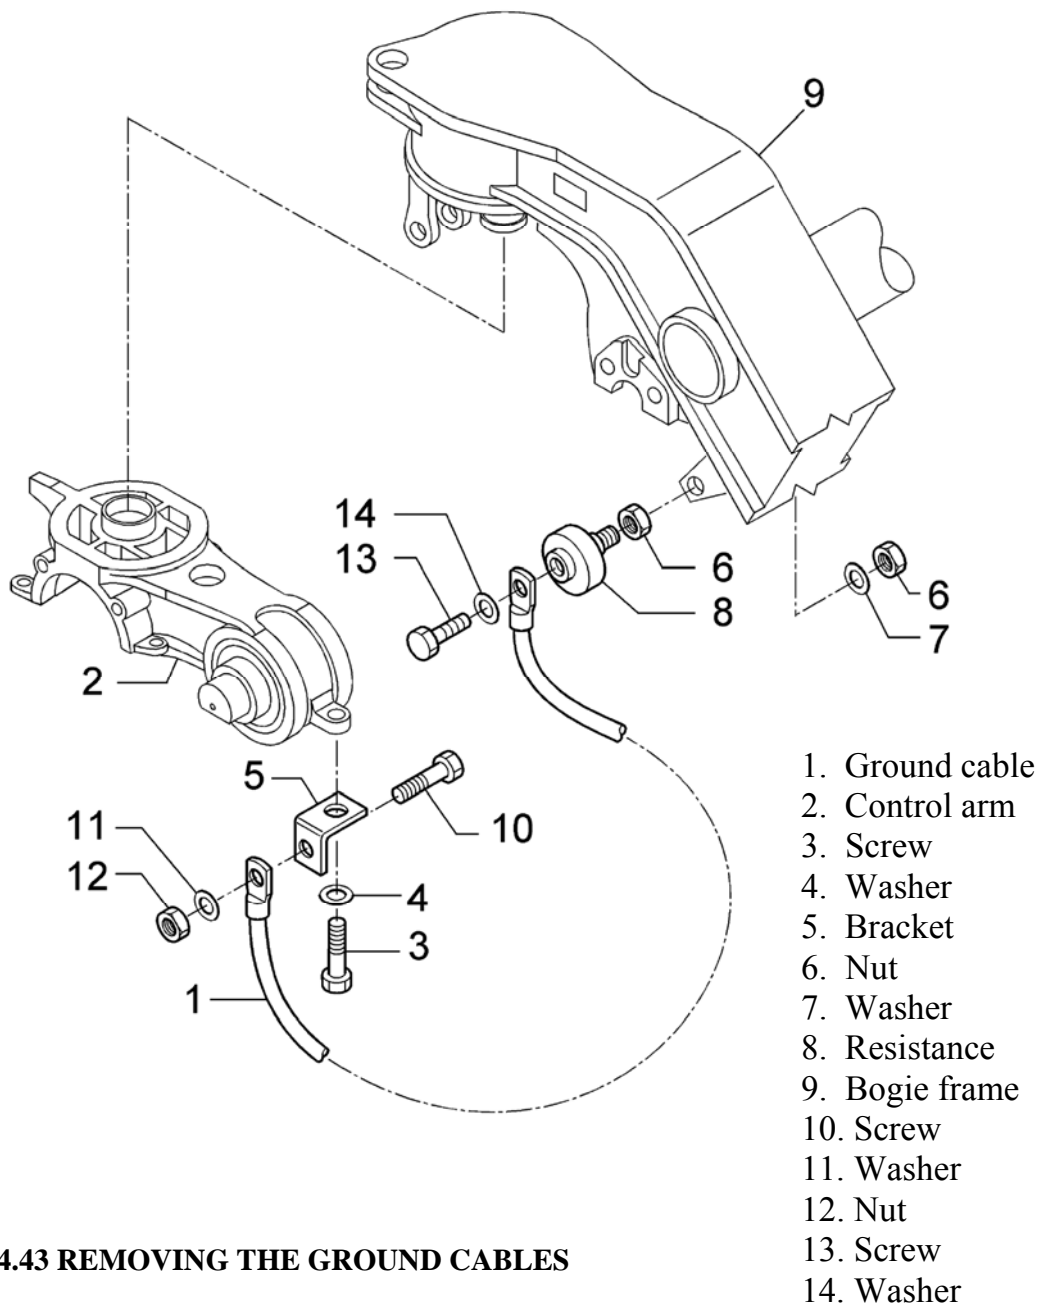

FIG. 4.43 REMOVING THE GROUND CABLES
Remove the ground cables (1 - FIG. 4-43) from the primary suspension (2) extracting the screw (3) and washer (4) which fix the bracket (5) to the control arm and the nuts (6) and washer (7) which fix the resistance (8) to the bogie frame (9).